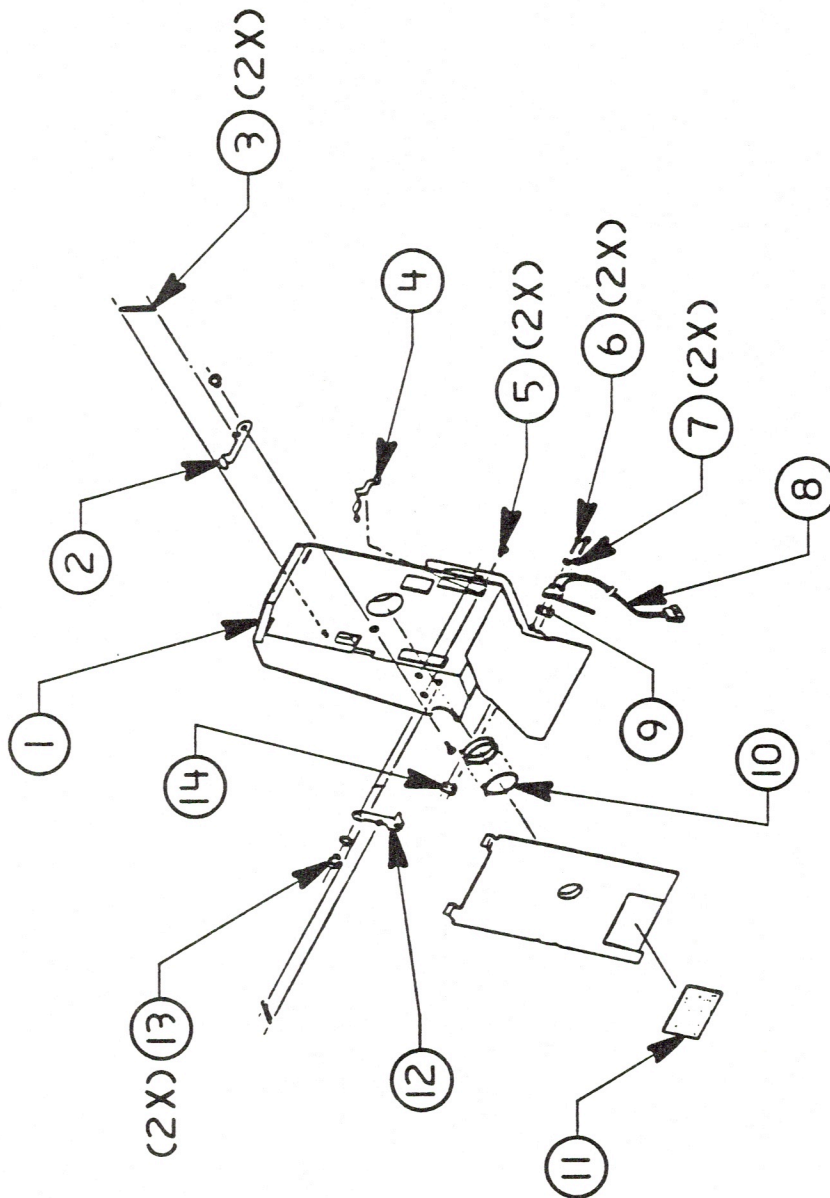

FIGURE 2
**SHEET FEEDER - HOPPER ASSEMBLY, LEFT HAND (Figure 2)**